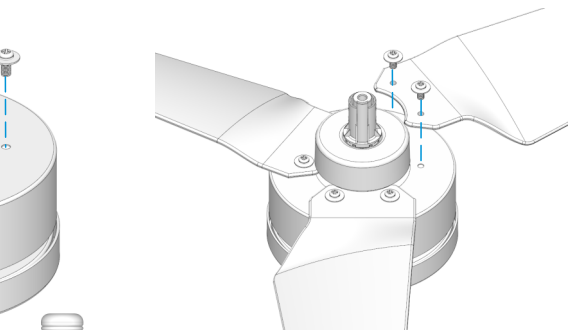

Fig. 4.2
4.2 Align two blade holes with the corresponding screw holes on the motor head, and secure the blades using the blade screws. Perform the same steps for the remaining blades. The completed blade installation is displayed in Fig. 4.2.